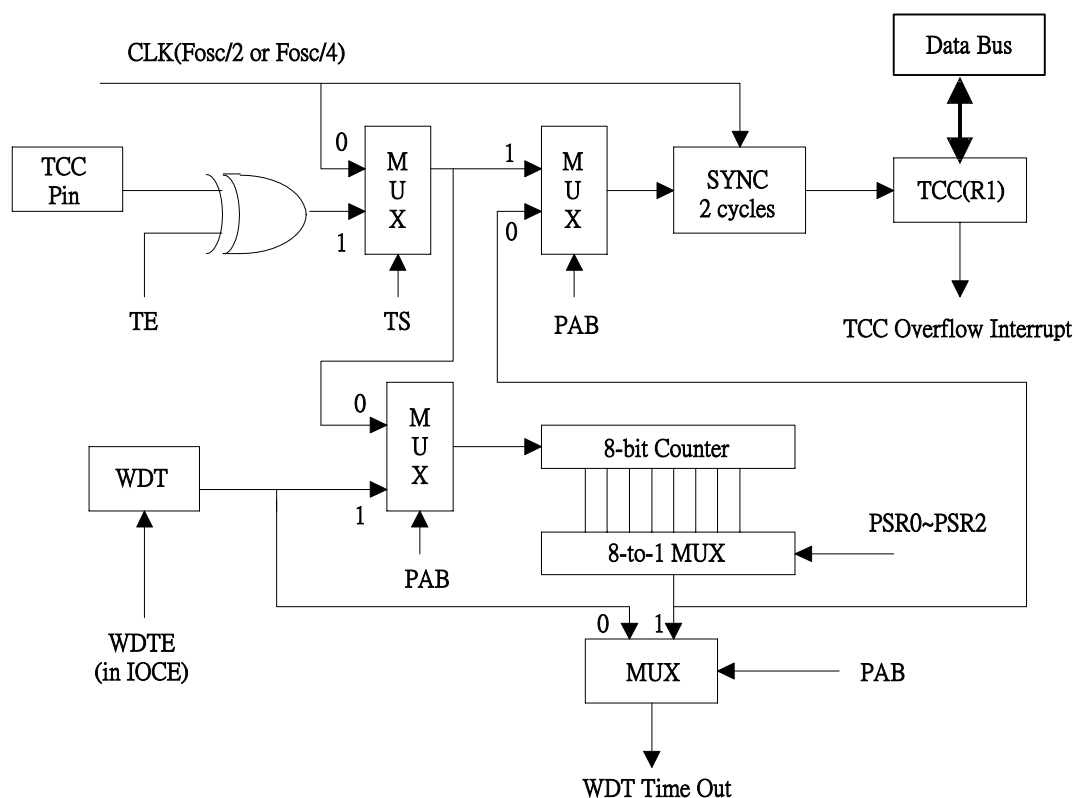

Fig. 5 Block diagram of TCC and WDT
There is an 8-bit counter available as prescaler for the TCC or WDT. The prescaler is available for the TCC only or the WDT only at the same time and the PAB bit of the CONT register is used to determine the prescaler assignment. The PSR0~PSR2 bits determine the ratio. The prescaler is cleared each time the instruction is written to TCC under TCC mode. The WDT and prescaler, when assigned to WDT mode, are cleared by the "WDTC" or "SLEP" instructions. Fig. 5 depicts the circuit diagram of TCC/WDT.
- R1(TCC) is an 8-bit timer/counter. The clock source of TCC can be internal or external clock input (edge selectable from TCC pin). If TCC signal source is from internal clock, TCC will increase by 1 at every instruction cycle (without prescaler). Referring to Fig. 5, $CLK = F_{osc}/2$ or $CLK = F_{osc}/4$, depends on the CODE Option bit CLK. $CLK = F_{osc}/2$ is used if CLK bit is "0", and $CLK = F_{osc}/4$ is used if CLK bit is "1". If TCC signal source is from external clock input, TCC is increased by 1 at every falling edge or rising edge of TCC pin.